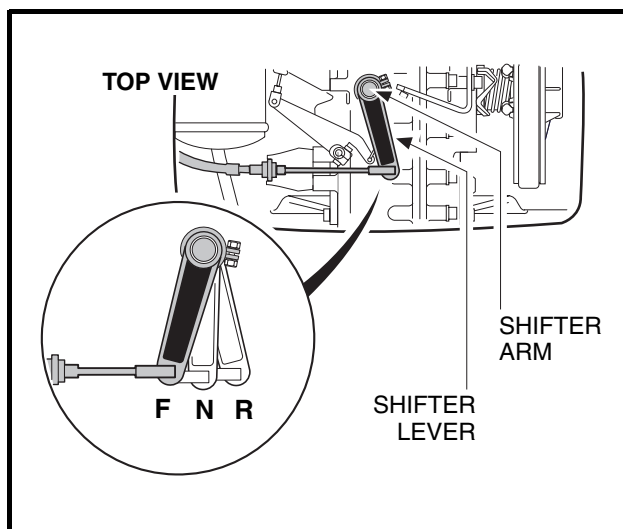

Figure 18-1 Shifter Positions
A shifter lever, connected to a shifter arm, is used to change the gears to one of three shift positions: FORWARD (F), NEUTRAL (N), or REVERSE (R) (**Figure 18-1, Page 18-1**). Bring the vehicle to a complete stop before changing FORWARD or REVERSE direction.